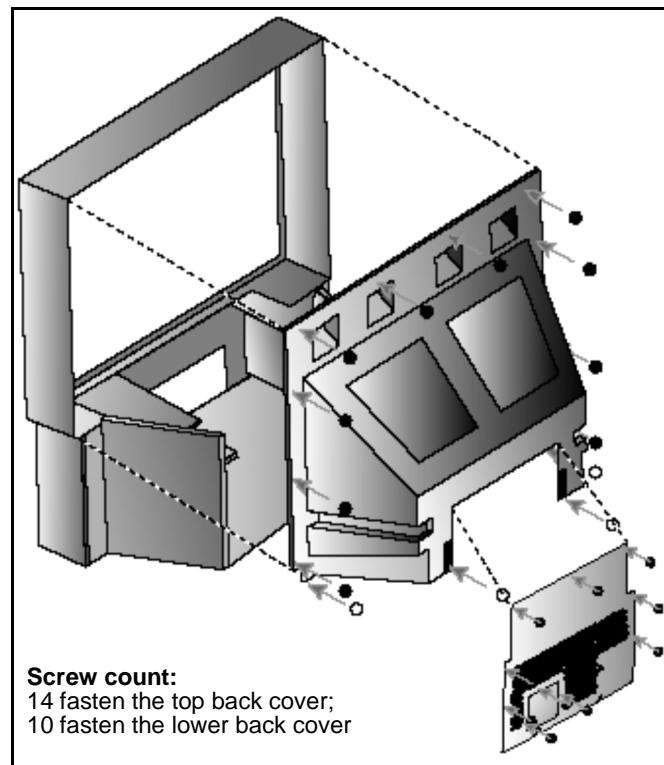

Figure 8. Cabinet Covers Removal
## Cabinet Back Lower Cover Removal (Fig. 8)
1. Remove (7) hex screws around the perimeter, marked with arrows. See Fig. 8 for screws location.
2. Remove (3) screws from around the A/V terminal board (marked with arrows).
## Cabinet Back Cover Removal (Fig. 8)
2. The top Back Cover (plastic shell) is secured with (14) screws around its perimeter. See Fig. 8 for screws location.
2. Remove the cabinet back lower cover. See Fig. 8.